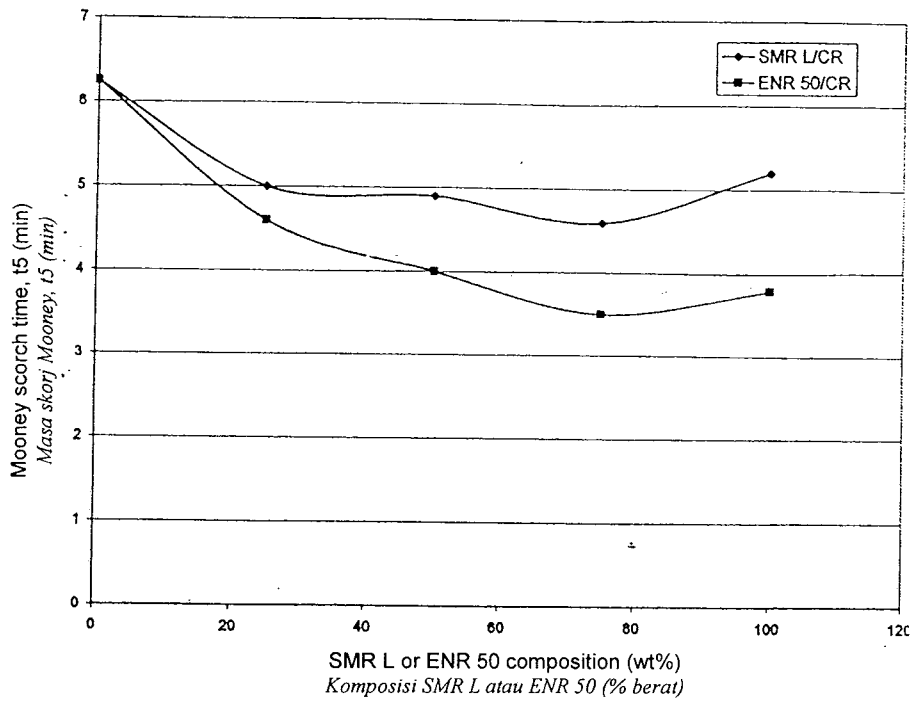
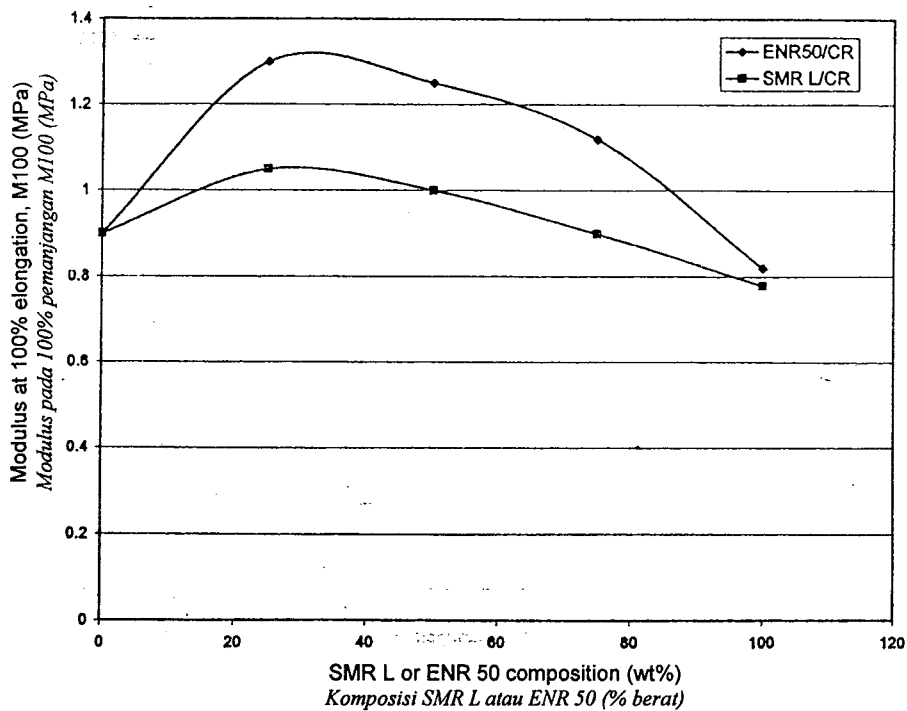

Fig. 1 - The comparison of Mooney scorch time versus blend composition for SMR L/CR and ENR 50/CR blends at 130°C
Fig. 2 - The comparison of M100 versus blend composition for SMR L/CR and ENR 50/CR blends
- [b] Figure 1 shows the comparison of Mooney scorch time versus blend composition for SMR L/CR and ENR 50/CR blends at 130°C. Figure 2 shows the comparison of modulus at 100% elongation and M100 versus blend composition for SMR L/CR and ENR 50/CR blends. Explain the results obtained in Figure 1 and Figure 2.